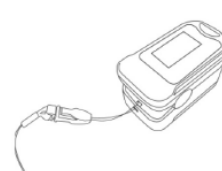

Figure 4 Mounting the hanging rope
- Step 1. Put the end of the rope through the hole, as shown in Figure 4.